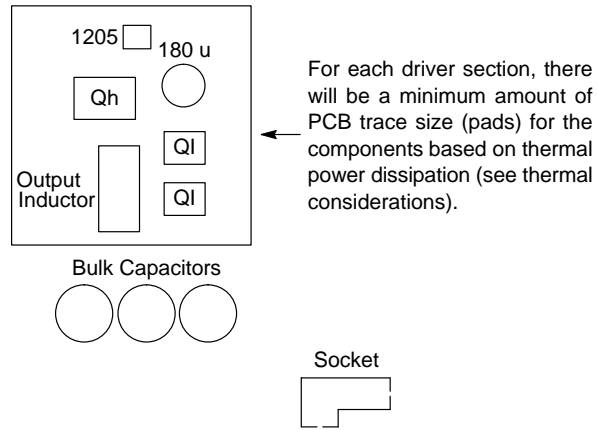

Figure 17. Phase Driver Layout
5. The bulk capacitors should be mounted between the “phase drivers” and the μ P socket, being mounted as close as possible to the socket. If the “phase drivers” are separated from each other substantially, the bulk capacitors should be divided up among them. Figure 17 details one example of “phase drivers”/bulk capacitor placement.